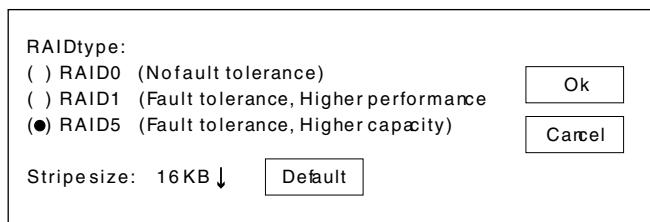

Figure 2-15. RAID Type Window
- 1 Select **RAID > Create**. The RAID Type window appears as shown in Figure 2-15.